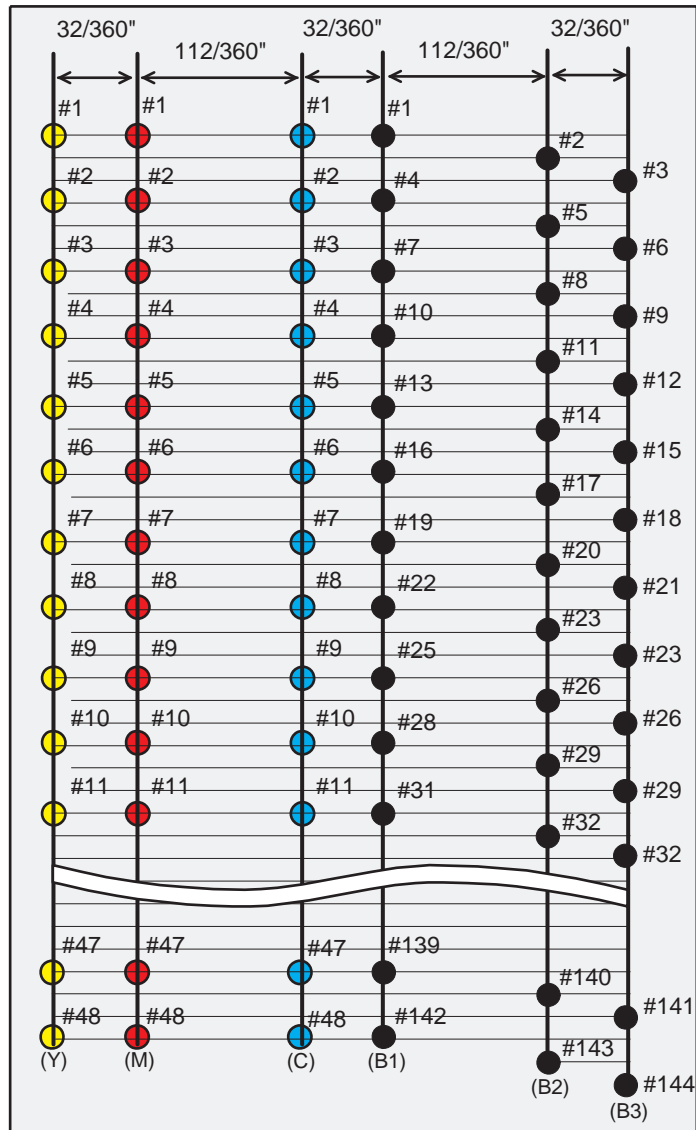

Figure 1-3. Nozzle Configuration for the Stylus COLOR 740
- Stylus COLOR 740 (see Figure 1-3):